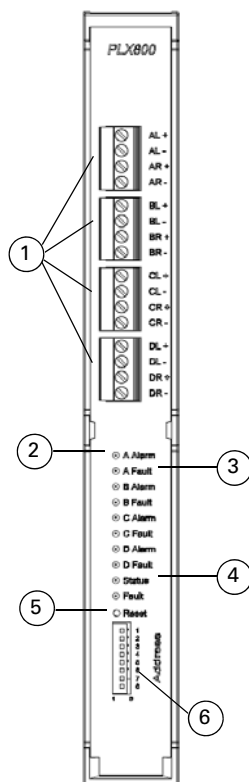

Fig. 25: PLX800 Loop Expansion Card
- 6 Set the addressing DIP switches to the chosen card address number (see Item 5 in Fig. 25). For a settings look up chart see Table 46 on page 48.
- 7 From the card remove the loop connector plugs (Item 1 in Fig. 25).